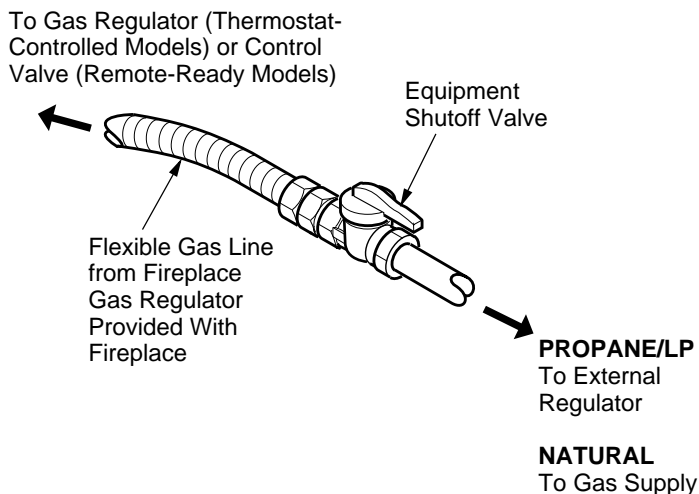

Figure 32 - Attaching Flexible Gas Line to Equipment Shutoff Valve
3. Apply pipe joint sealant lightly to male threads of gas connector attached to flexible gas line/equipment shutoff valve (see Figure 32).